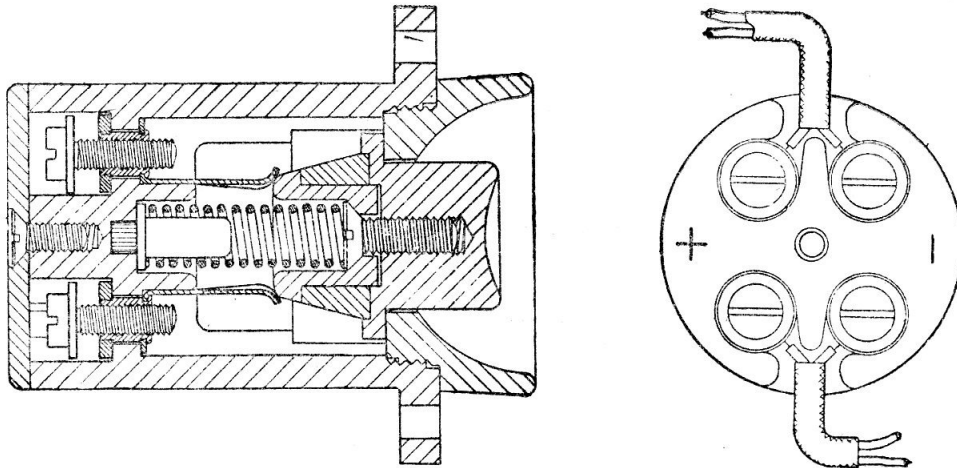

Fig. 1. Sectional view of double-pole switch, Type B
3. The mechanism of the switch is shown in fig. 1. There are four terminals, two negative and two positive, each connected to a leaf-spring contact. Two bridging pieces are mounted on the plunger, one to bridge the positive terminals and the other the negative terminals.
4. The push-switch, Type B, No. 1, is a single-pole, push-to-make switch for use in circuits where the current does not exceed 5 amp. The two terminals are bridged similarly to the pairs of terminals in the double-pole push-switch, Type B, illustrated in fig. 1, and the button is spring-loaded to return to the off position after operation.